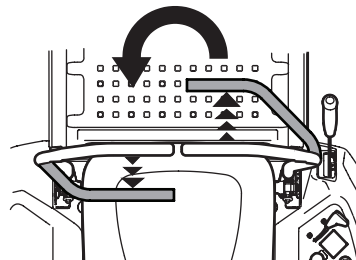

Figure 30
3. To turn counter-clockwise, move the lapbar right drive control lever forward while simultaneously moving the left lapbar drive control lever rearward. See Figure 30.